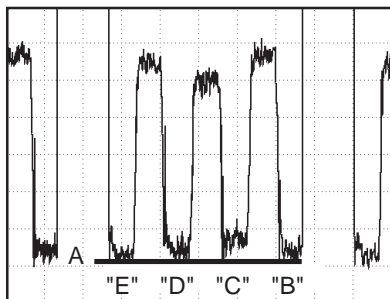

Fig. 2-5
6. Adjust the LEVEL "B" section of Blue to the LEVEL "E" section of White by pressing the VOL. UP/DOWN button on the remote control. **(Refer to Fig. 2-5)**